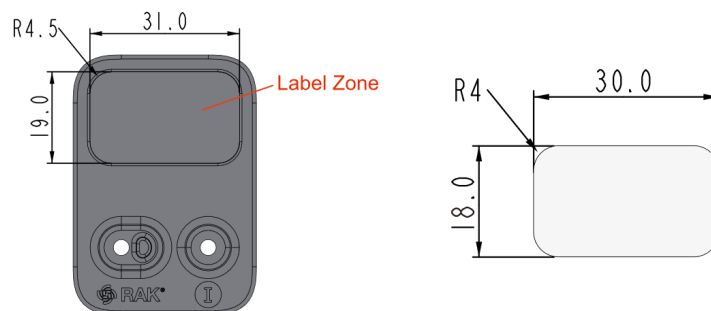
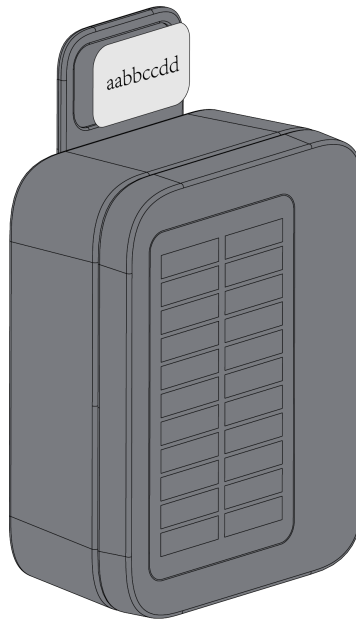

Figure 35: Label dimension
Figure 36: Attaching the label on the enclosure
3. Lastly, you can paste a 30x18 mm Fillet R4 label in the label zone as shown in **Figure 35** and **Figure 36**.